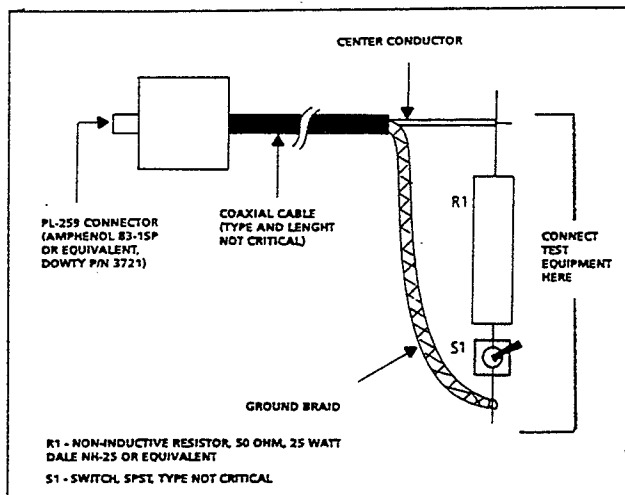

Figure 3-12. Construction details, 50-ohm dummy load for initial startup procedures
4. 50-ohm dummy load, constructed as shown in Figure 3-12.